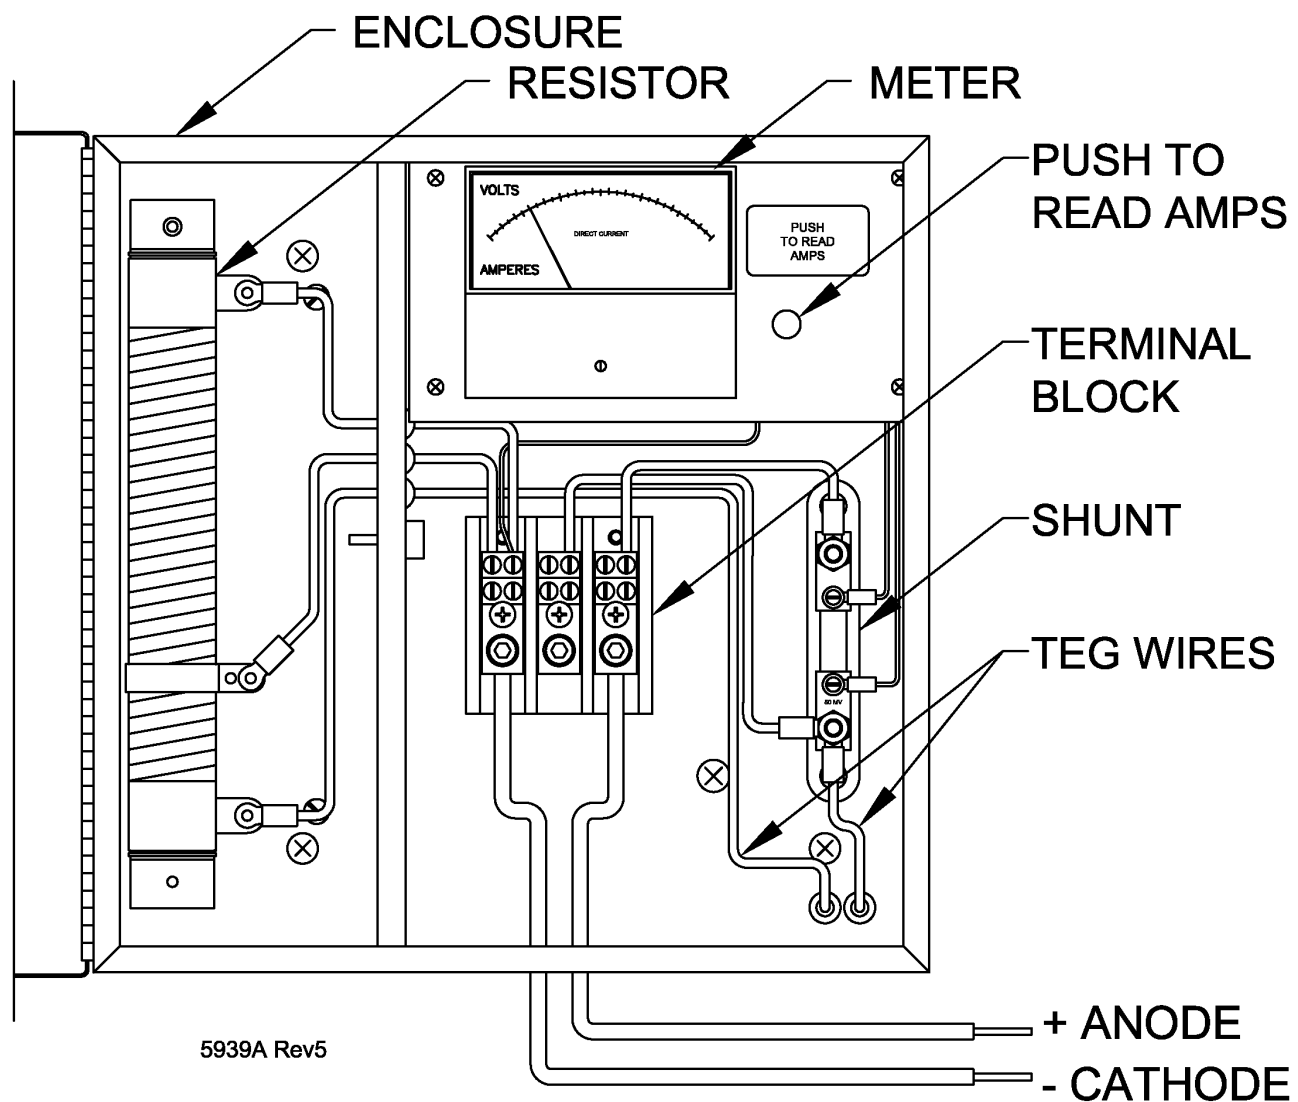

Figure 8 – CP Interface System Assembly
An optional cathodic protection interface system is available for use with the model 5220 TEG. It provides for adjustment and monitoring of power to a Cathodic Protection (CP) load. The anode and cathode cables enter the cabinet at the bottom and connect directly to a heavy-duty terminal block. A 0 to 1  $\Omega$  300-watt variable resistor is provided for adjusting the output power applied to the CP system. The main parts of the CP interface system are shown in Figure 8.